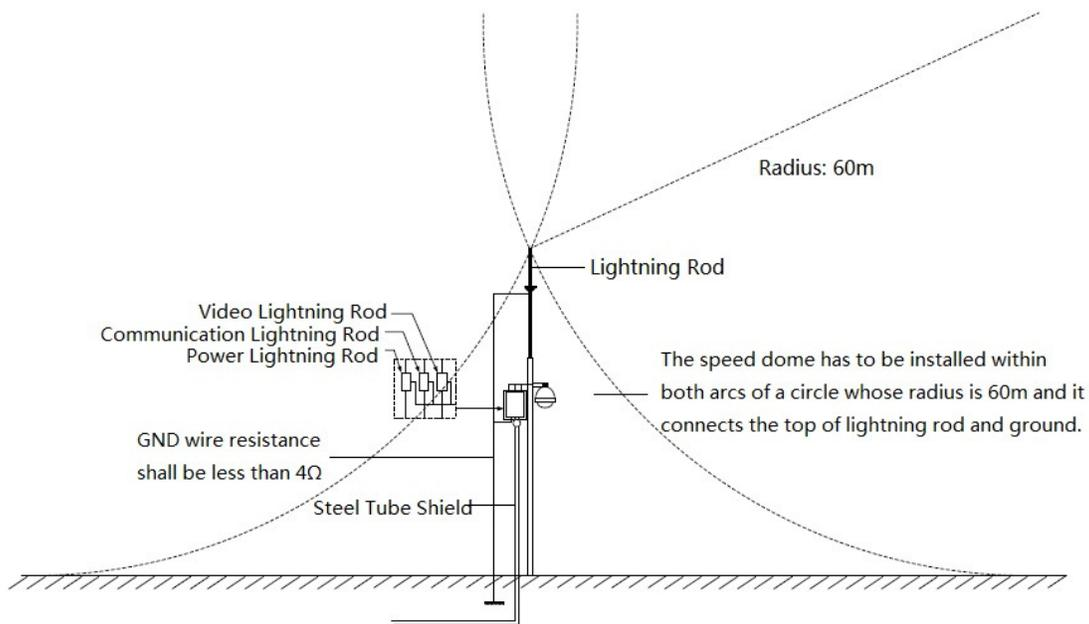

Figure 6-1
- System shall adopt equal-potential wiring. The earth device shall meet anti-jamming and at the same time conform to your local electrical safety code. The earth device shall not short circuit to N (neutral) line of high voltage power grid or mixed with other wires. When connecting the system to earth alone, the earth resistance shall not be more than 4Ω and earth cable cross-sectional area shall be below 25 mm^2 . See Figure 6-1.